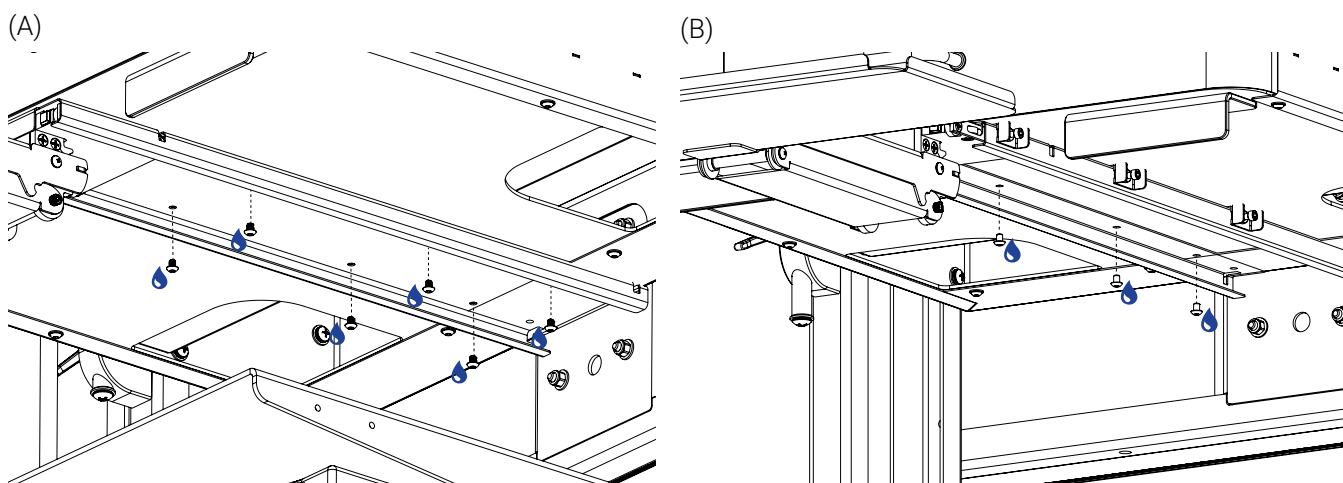

Figure 10: Installing the first accessible screws
13. While one (1) person is holding the tray, install the new 10-32 in. X 1/4 in. button head of the sliding mechanism, under the top shelf:
- For an Endoscopy Cart with a 1-part sliding mechanism, tighten the first six (6) screws coated with medium strength thread lock adhesive, using a 1/8 in. hex key (Figure 10 A).
- For an Endoscopy Cart with a 2-part sliding mechanism, tighten the first three (3) screws coated with medium strength thread lock adhesive on the rail located on the left-hand side, using a 1/8 hex key (Figure 10 B).